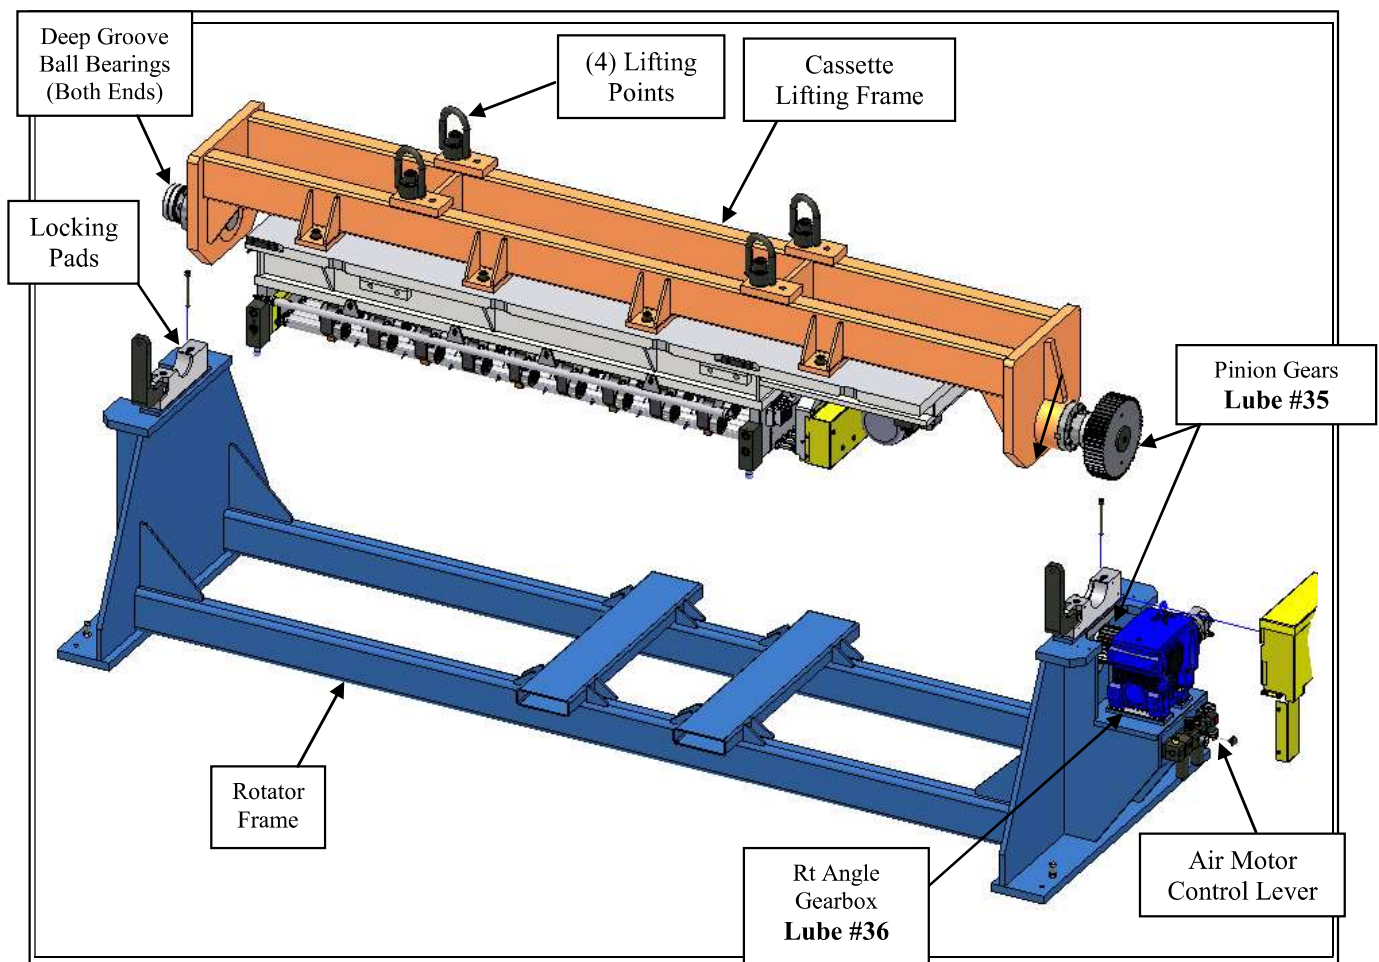

Figure 12.1 Cassette Rotator
The Cassette Rotator (Figure 12.1) is a device used to rotate the upper cassette in order to make cleaning and maintenance easier for the operator. To use the rotator, first remove the cassette from the leveler. Next remove the (2) socket head bolts that are holding down the locking pads on the cassette rotator. Flip up the locking pads and remove the cassette lifting frame from the rotator with a crane. Attach the lifting frame to the upper cassette with (8) socket head bolts. Remove the upper cassette from the exchange table and place support back in the rotator. Finger tighten the locking pads down to secure the lifting frame in place. Finally the operator may rotate the cassette with the air motor control lever.